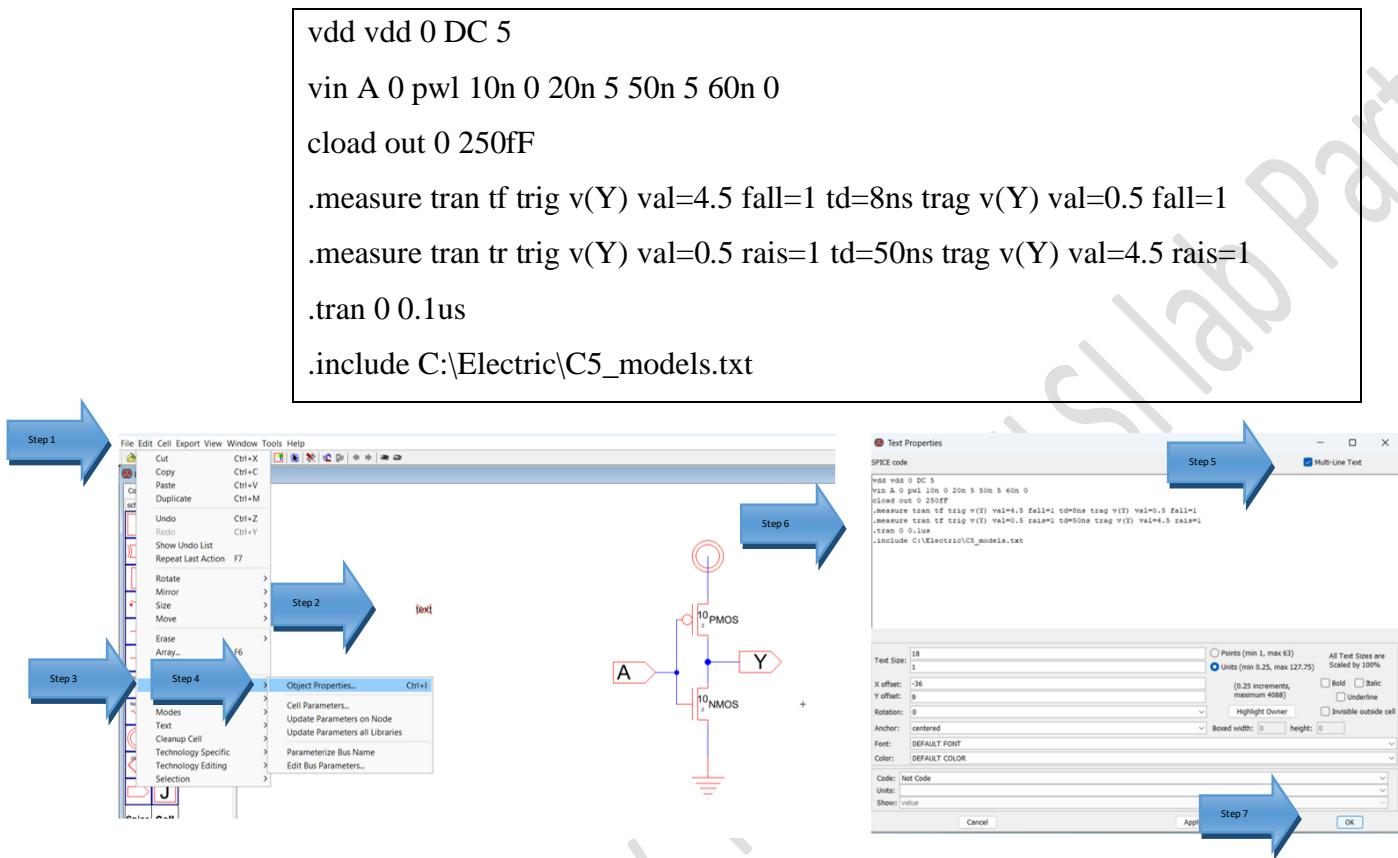

Figure 1.20: How to Write code.
14. Then write the below code by clicking on the text and then click on Edit>> Properties>>Object Properties then write the code then click OK. (See Figure 1.20).